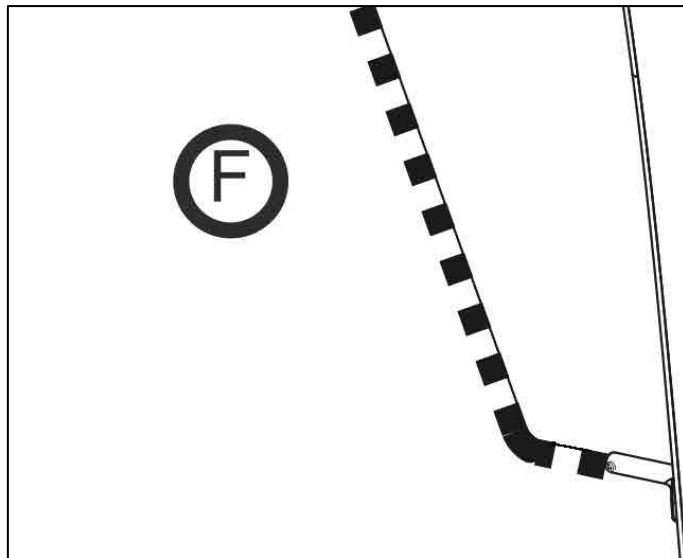

Figure 7: Location F
- 14) Remove existing support. (Fig. 7).